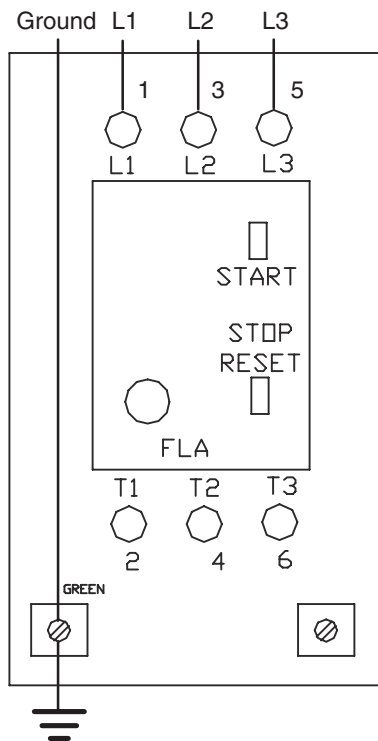

Figure 23
2. Insert line cord through grip (AR) and tighten nut.
3. For correct three-phase motor shaft rotation, connect line phase sequence L1, L2 & L3 to terminals as shown (Figure 23).
The motor ground wire is also attached to left terminal marked \perp (Figure 23).
4. Attach ground wire to lower left terminal marked \perp (Figure 23).